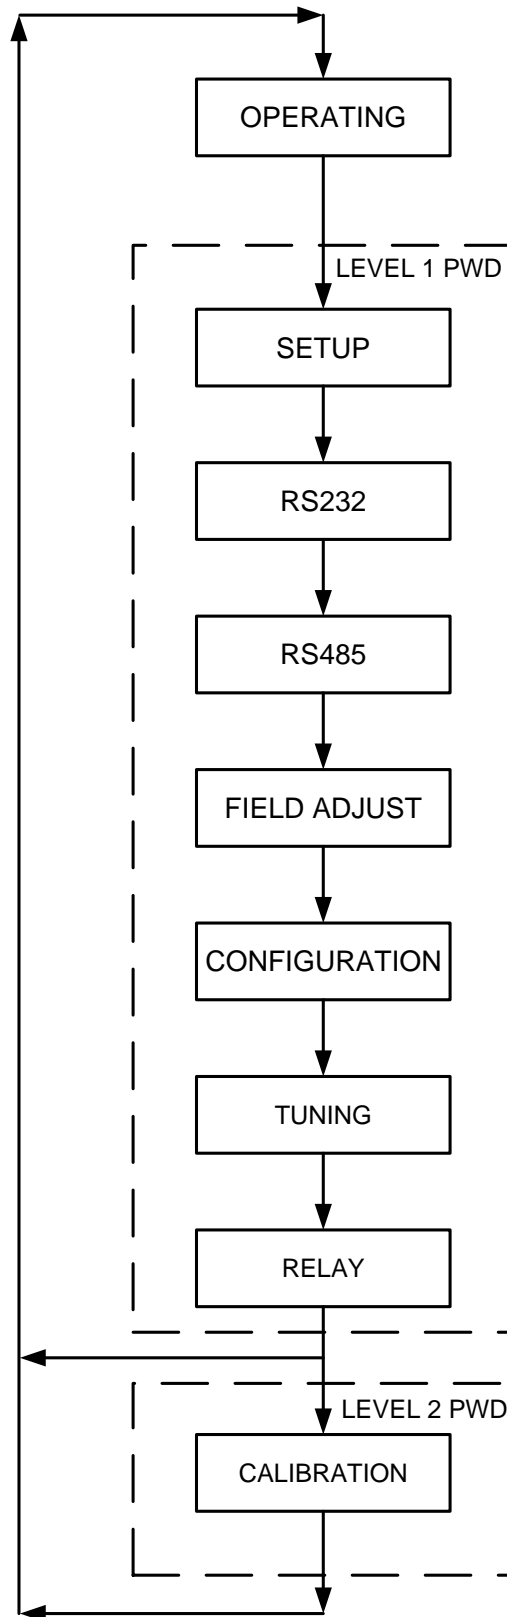

Figure 3-2: ACS Menu Structure
The ACS incorporates an extensive menu structure which permits the operator to set up, and configure the unit. The menu structure consists of nine major menu categories as shown in Figure 3-2. Each of the menus shown, contain options which permit operating parameters to be viewed or changed. The menus are protected by two different password levels to prevent unauthorized use. These passwords provide access as follows:
2. Press the **MENU** key. The display will show the Setup Menu which is the next menu category shown in Figure 3-2. This menu contains the Password option which must be entered if other menu options will be changed.
The following sections provide detailed descriptions of the options contained in each of the menus shown in Figure 3-2. The menu options appear in the first line of the VFD display and the corresponding value or setting for the displayed option will appear in the second line of the display. See Appendix A for tabular summaries of all menu options showing the entry ranges and default values.